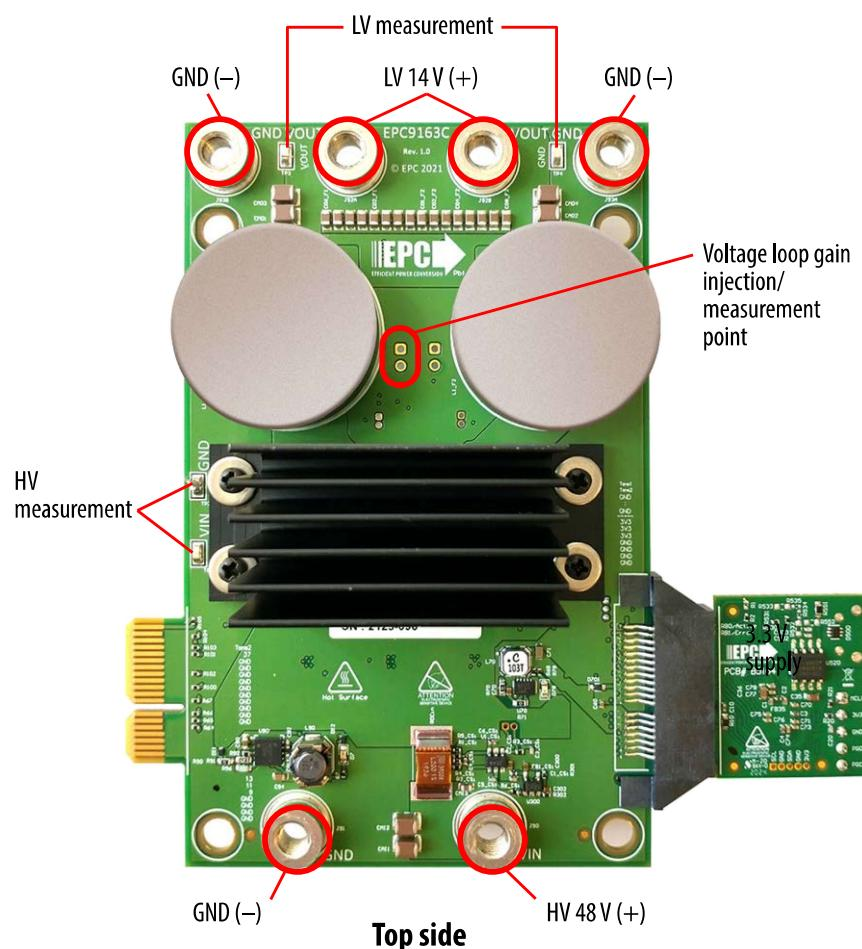

Figure 2: EPC9163 test point pad and hookup locations and designations
**Buck mode:** power supply connects to HV 48V (+) and GND (-); load connects to LV 14V (+) and GND (-), as shown in figure 2.
**Boost mode:** power supply connects to LV 14V (+) and GND (-); load connects to HV 48V (+) and GND (-), as shown in figure 2.